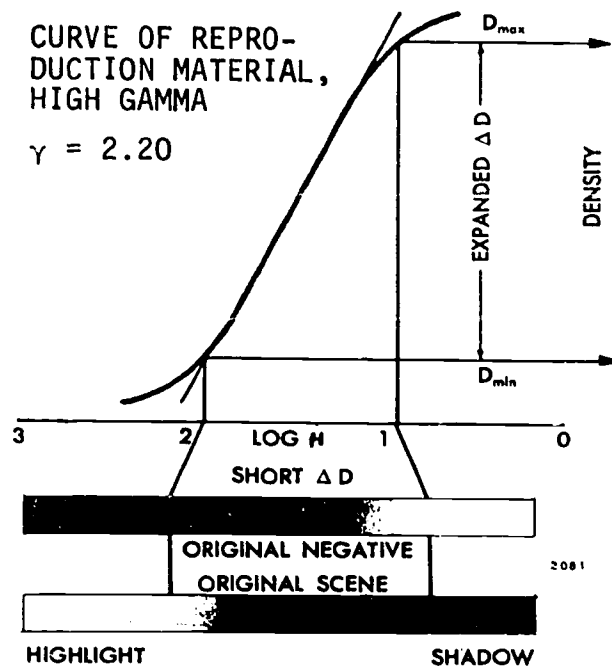

Figure 2-21. Short ΔD .
In a scene with a low brightness range, such as the one shown in figure 2-21, where there is little discrimination between tones, the wanted tones can be placed on the straight-line portion of the negative. Then, printing the negative on a material capable of delivering a high gamma results in an expansion of the density differences.
6. Figure 2-21 shows little discrimination between tones. What printing material would be needed to expand the density differences?